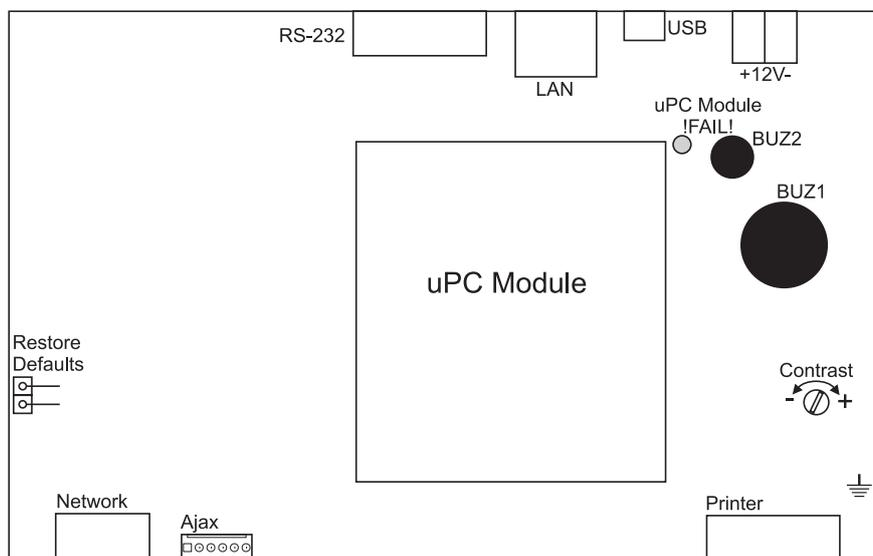

Figure 19. Main Board with integrated Control Module.
- The programming of the inputs and outputs controlling the operation of the adapter key safe and the dialer are described at item 3.7.8.4 (Menu Printer).
- The serial interface cable is equipped with one male DB9 connector, wired according the diagram below, and connected to the "Printer" connector on the indication board (Figure 19).